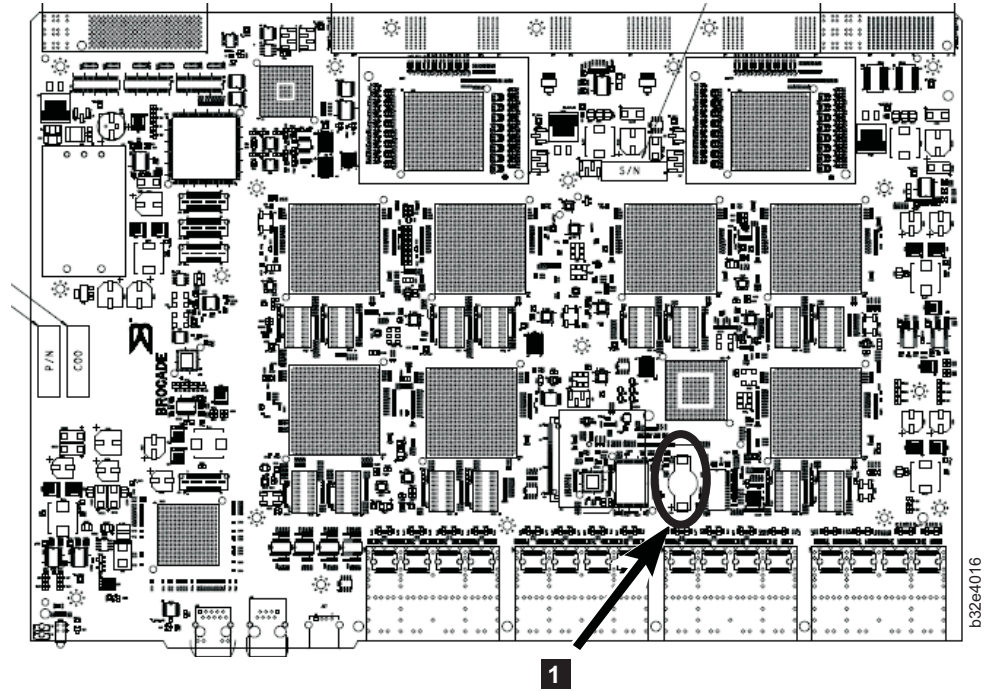

Figure 51. Encryption blade battery location
7. For the optional FS8-18 encryption blade, go to the BC1 location (see **1** in Figure 51 on page 113) on the main board and remove the BR1225 battery.